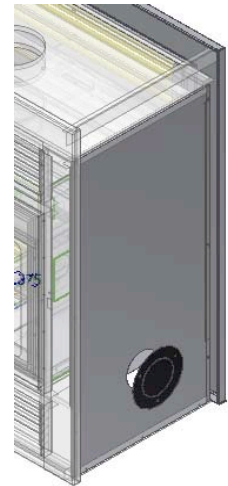

Figure 11
- Remove the flange from the side of the fireplace (Figure 11).